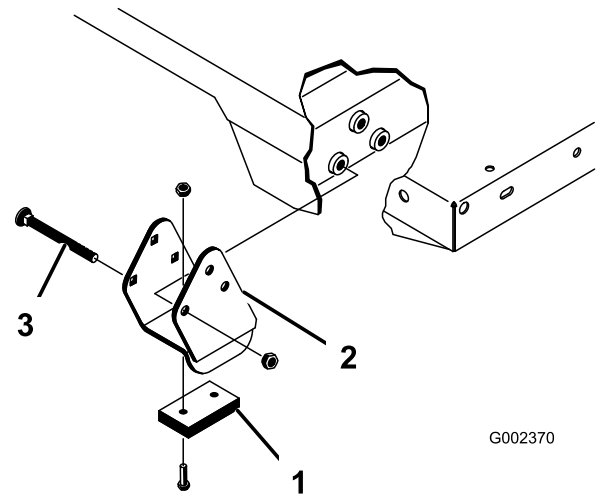

Figure 22
2. Carefully set the bed onto the machine frame, aligning the rear bed pivot-plate holes with the holes in the rear frame channel, and install the 2 clevis pins and lynch pins (Figure 22).
4. Insert the clevis pin from outside of the bed with the lynch pin oriented toward the outside (Figure 22).
Ensure that the spacer brackets and wear blocks (Figure 22) are installed with the carriage-bolt heads positioned inside the machine.